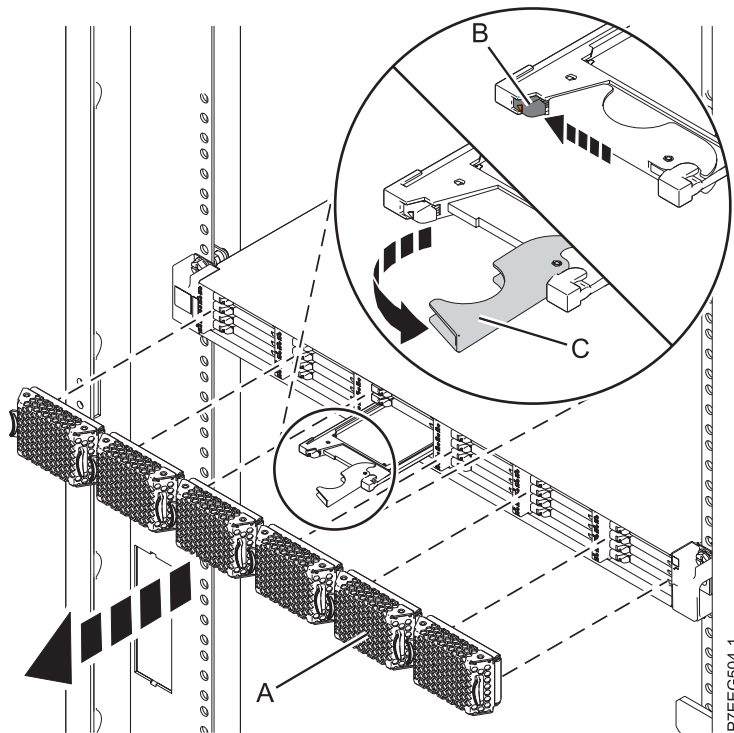

Figure 13. Removing the solid-state drive from the 58/88 PCIe storage enclosure
4. Pull off the bezel (A) that covers the slot that contains the solid-state drive.
5. When the solid-state drive identify LED turns on solid, slide the release latch (B) over gently to unlock the drive handle. See Figure 13 on page 25.
6. Grasp the handle (C) and pull the drive partially out of the slot.